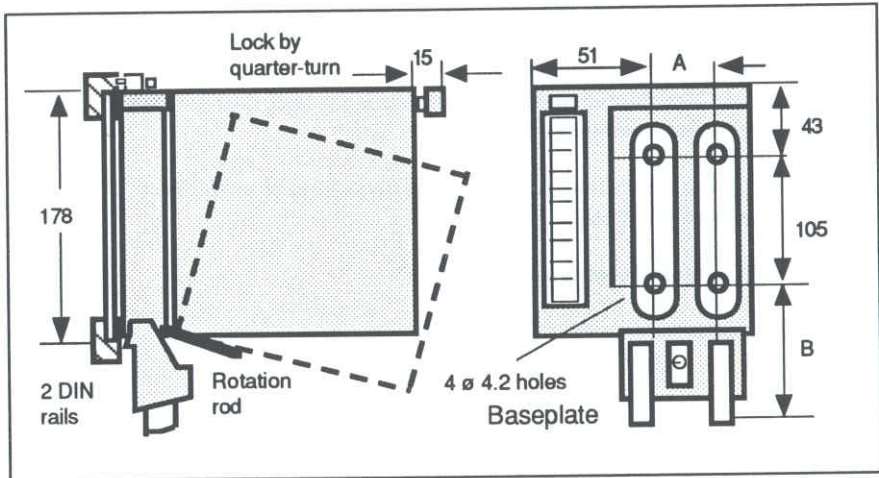

Figure 2.1 Attachment
- insert the rotation rod in the baseplate recipient (see fig. 2.1)